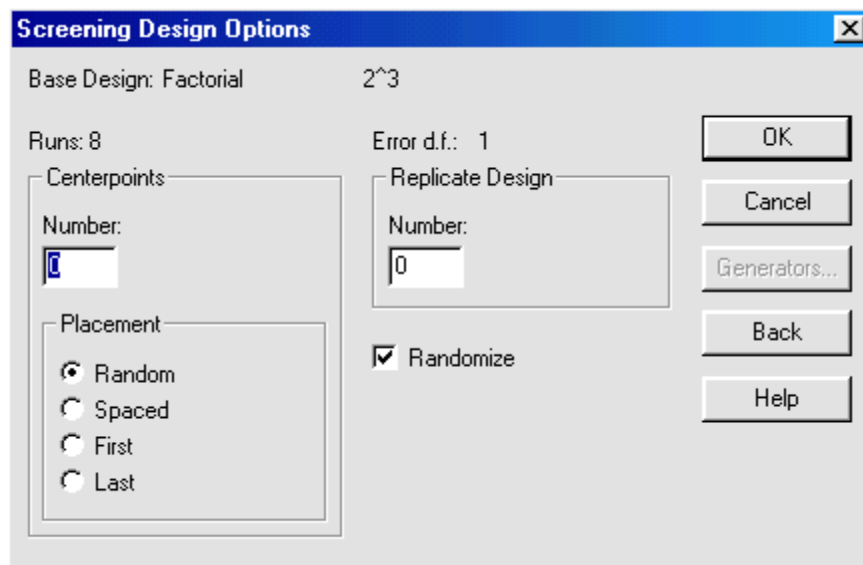

Figure 3-5. Screening Design Options Dialog Box
9. Click OK to display the Screening Design Options dialog box shown in Figure 3-5.